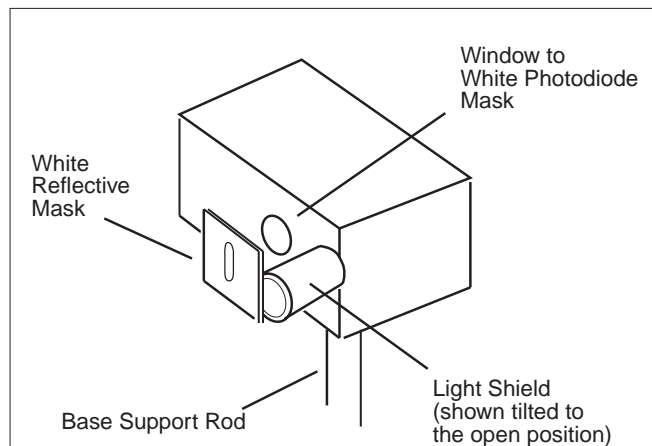

Figure 9. h/e Light Shield
- Set the h/e Apparatus directly in front of the Mercury Vapor Light Source. By sliding the Lens/Grating assembly back and forth on its support rods, focus the light onto the white reflective mask of the h/e Apparatus (Figure 9).